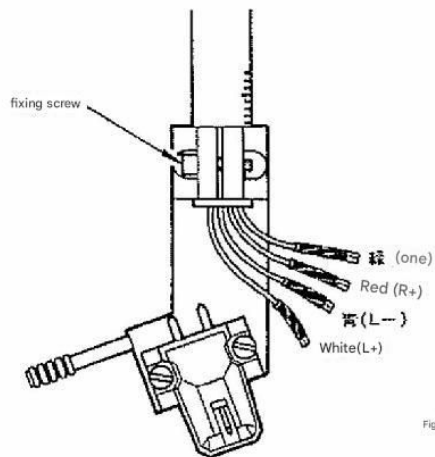

Figure 4
1. Place the shell face down and insert it into the end of the pipe as shown in Figure 4. If it does not fit into the hole, loosen the fixing screw with a hex wrench.